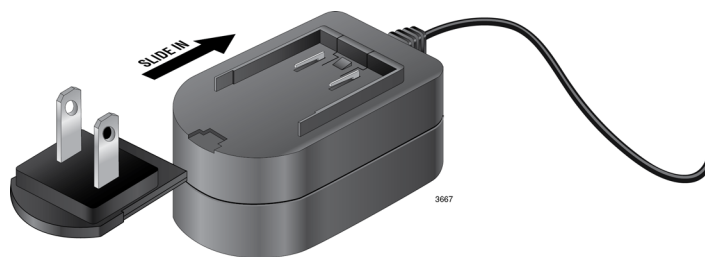

Figure 38. Slide AC Plug Into AC/DC Power Adapter
3. Select the AC power plug that is compatible with your region and slide it into the power adapter as shown in Figure 38.